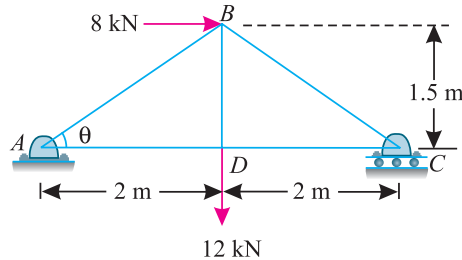

Fig. 13.41.
**Example. 13.11.** Figure 13.41 shows a framed of 4 m span and 1.5 m height subjected to two point loads at B and D.